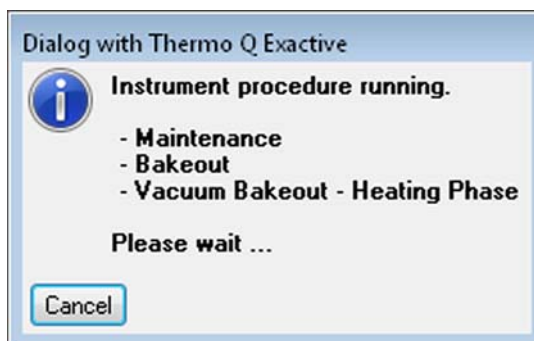

Figure 8-3. Message box: Vacuum Bakeout active
5. The dialog box disappears and the baking procedure starts. The instrument indicates the active bakeout procedure by a flashing Vacuum LED. (See Figure 3-3 on page 3-9.) Additionally, the Tune software displays a corresponding message box. See Figure 8-3.